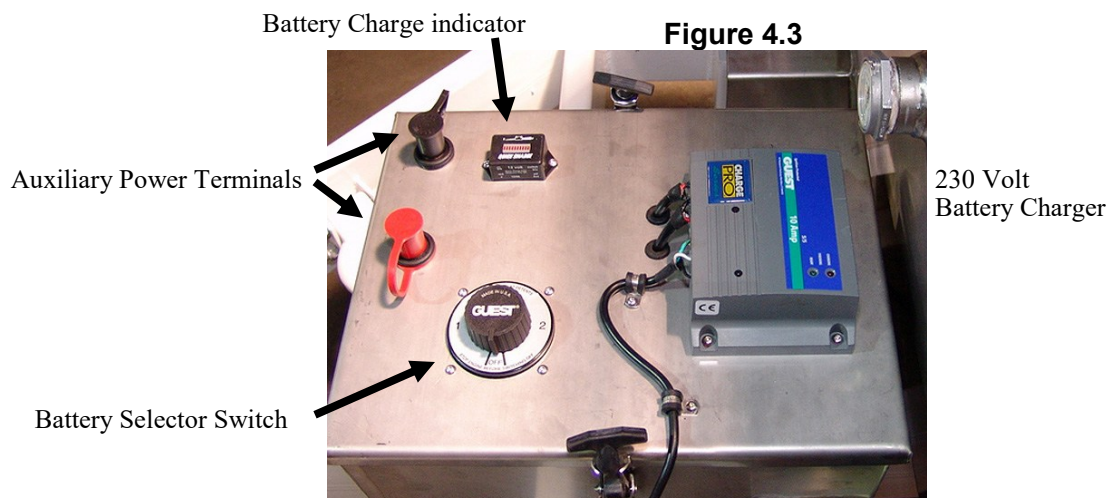

Figure 4.3
4.4.1 Auxiliary Power Terminals - See Fig. 4.3 The battery box includes auxiliary power terminals located on the top of the cover. Use the auxiliary posts only to complete a refueling task if the primary batteries becoming totally depleted. Positive (Red) and Negative (Black) terminal ends provide attachment points for connecting to a 12 volt support vehicle. Read the vehicles recommended practice for supplying 12 volt power to external battery sources.